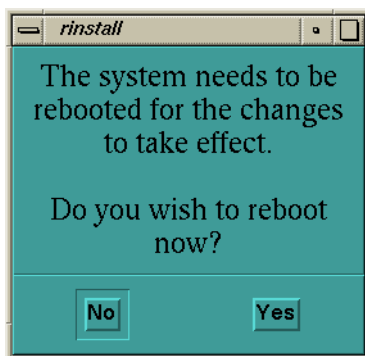

Figure 3-2 Reboot Screen
- 1.) When the loading process and configuration changes are complete, the system displays a prompt to reboot. Click on YES. (See Figure 3-2.)